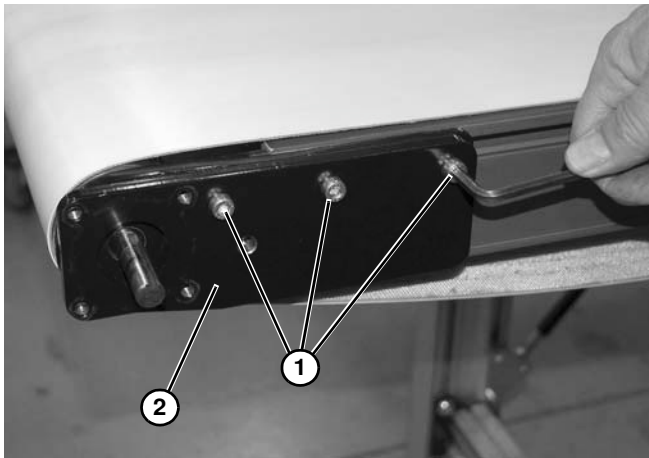

Figure 63
3. Remove three fastening screws (Figure 63, item 1).
4. Remove the gearmotor mounting plate (Figure 63, item 2) from the conveyor frame